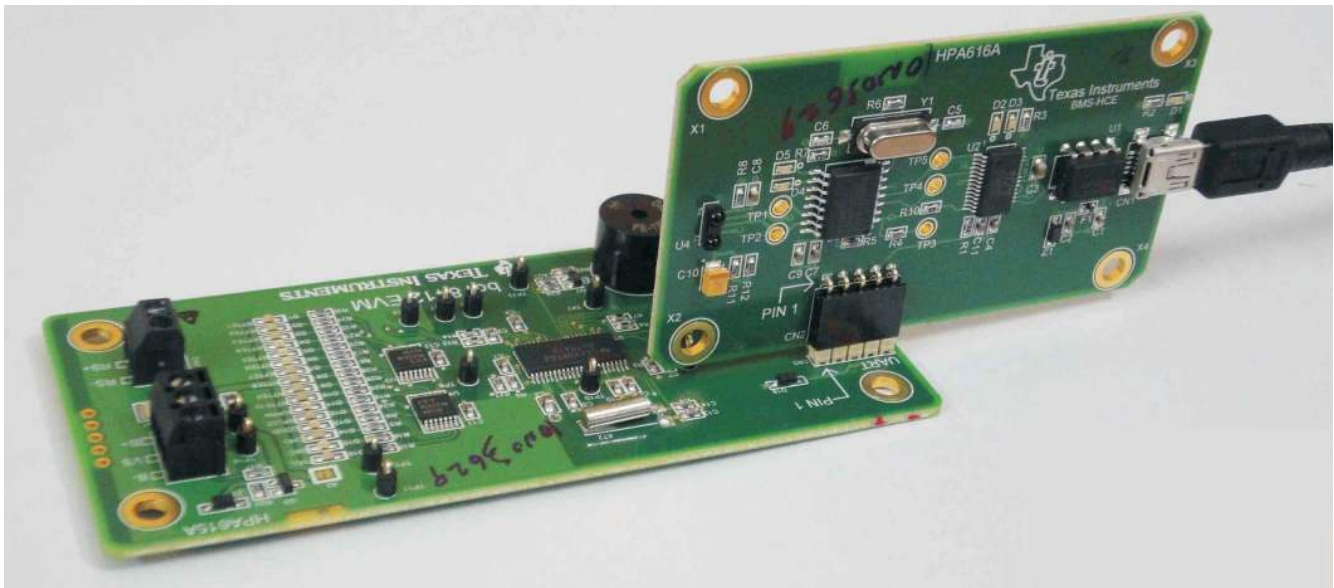

Figure 4. Plugging in the HPA616A
- Insert the USB-to-serial adapter into the UART connector on the bq78412EVM board as shown in Figure 4.